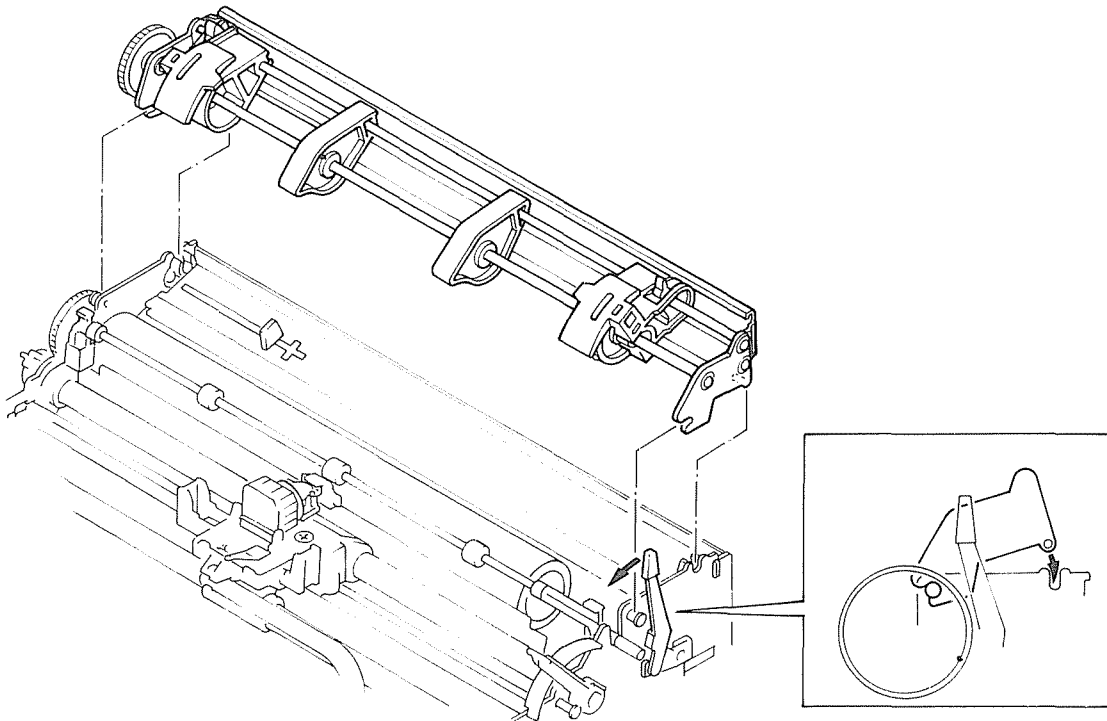

Figure 5. Installing the Tractor
3. Place the front cutouts in the Tractor unit onto the outside studs (see Figure 5). Then press on the rear of the Tractor until the back posts snap into place.